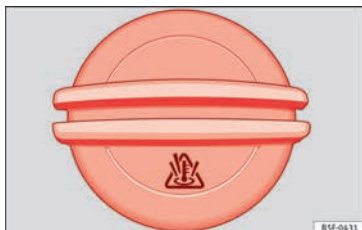

Fig. 246 In the engine compartment: Coolant expansion tank cap
- The coolant expansion tank is easily recognisable because of the symbol 🖐 on the cap » » » Fig. 246.